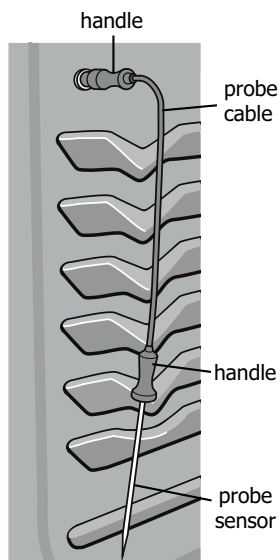

Figure 31: Using the probe
Do not use kitchen utensils to pull on the probe cable or handles. Always insert and remove the probe using the provided handles, as shown in Figure 31, and always use a pot holder to protect hands from possible burns.
- 2. Plug the connector end of the probe all the way into the probe receptacle while the oven is still cool. The receptacle is located on the upper left front oven cavity wall (See Figure 31).